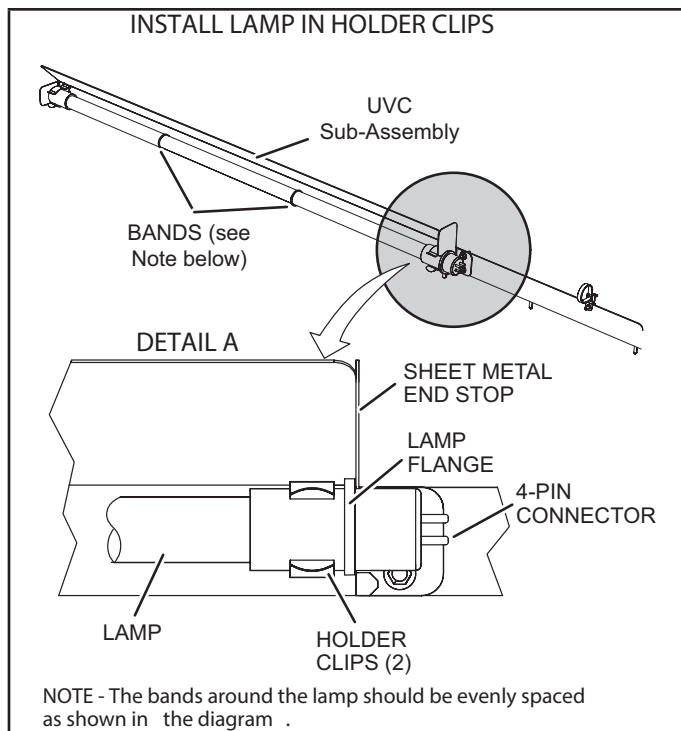

FIGURE 42
- 6 - Wear cotton gloves or use a cotton cloth when handling the new lamp. Place the new lamp in the holder clips of the UVC assembly. Verify that the lamp flange at the connector end is sandwiched between the lamp holder clip and the sheet-metal end stop (see FIGURE 42).